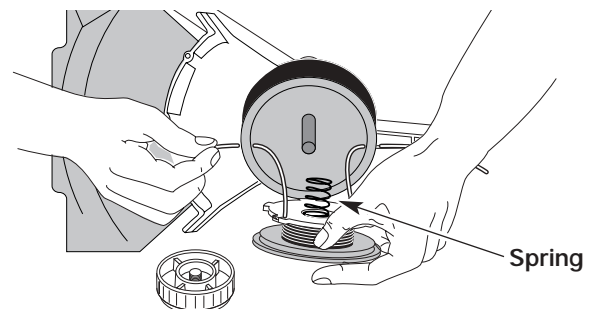

FIGURE 32
13. Insert the ends of the line through the eyelets in the outer spool and place inner reel with spring inside the outer spool, Figure 32. Push the inner reel and outer spool together. While holding the inner reel and outer spool, grasp the ends and pull firmly to release the line from the holding slots in the reel.
5. Insert the ends of the line through the eyelets in the outer spool, Figure 32.